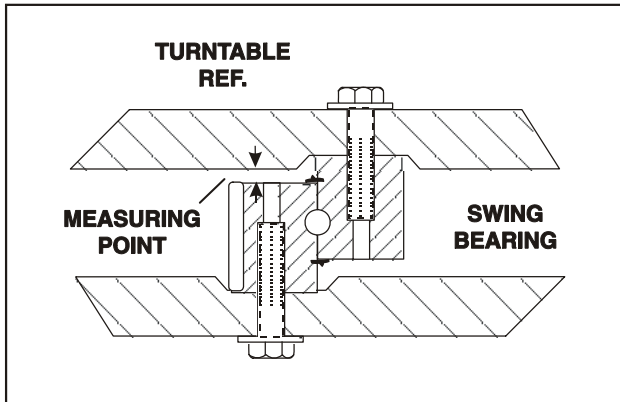
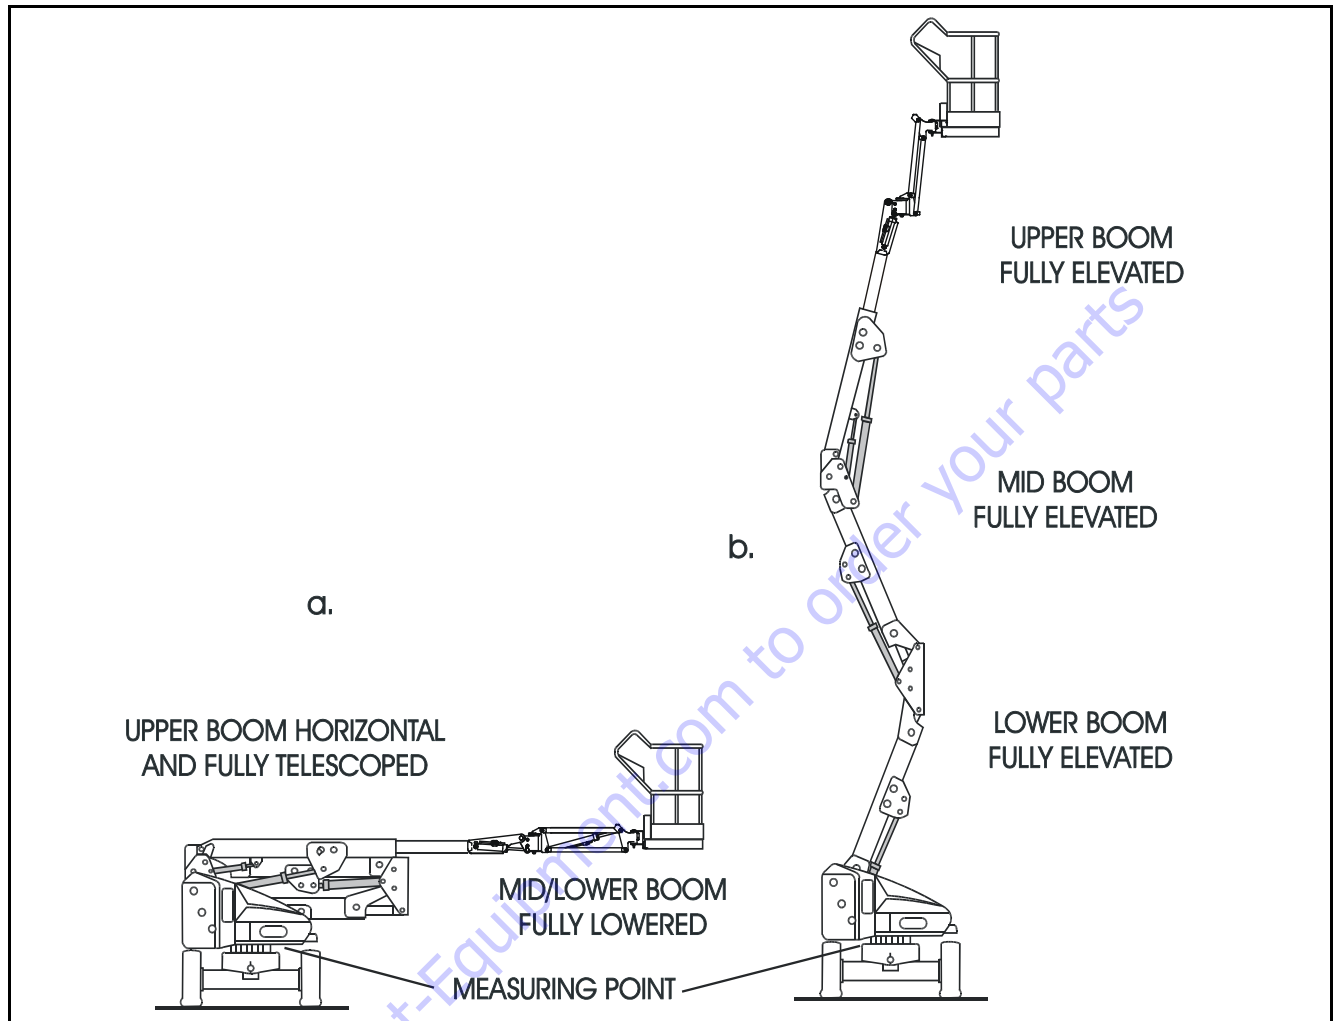

Figure 3-13. Swing Bearing Tolerance Measuring Point
Figure 3-14. Swing Bearing Tolerance Boom Placement
- b. At the positions indicated on Figure 3-14. try and insert the 0.0015" feeler gauge between the bolt head and hardened washer at the arrow indicated position.
1. With the boom positioned over the side of the machine, the Upper Boom horizontal with telescope fully extended and Mid/Lower Boom stowed, (See Figure 3-14.), using a magnetic base dial indicator, measure and record the distance between the swing bearing and turntable. (See Figure 3-13.)
2. At the same point, with the boom positioned over the side of the machine, the Upper Boom fully elevated and the Mid/Lower Boom fully elevated, (See Figure 3-14.) using a magnetic base dial indicator, measure and record the distance between the swing bearing and turntable (See Figure 3-13.)